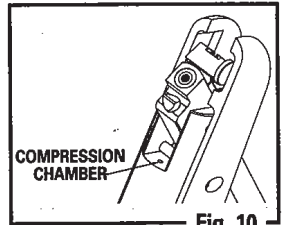

Fig. 10
- To ensure that your air rifle maintains uniform power, it is important that you apply a drop of Crosman RMC0IL every few hundred shots into the compression chamber. (Fig. 10) The external metal parts should be cleaned with a cloth that has RMC0IL on it.